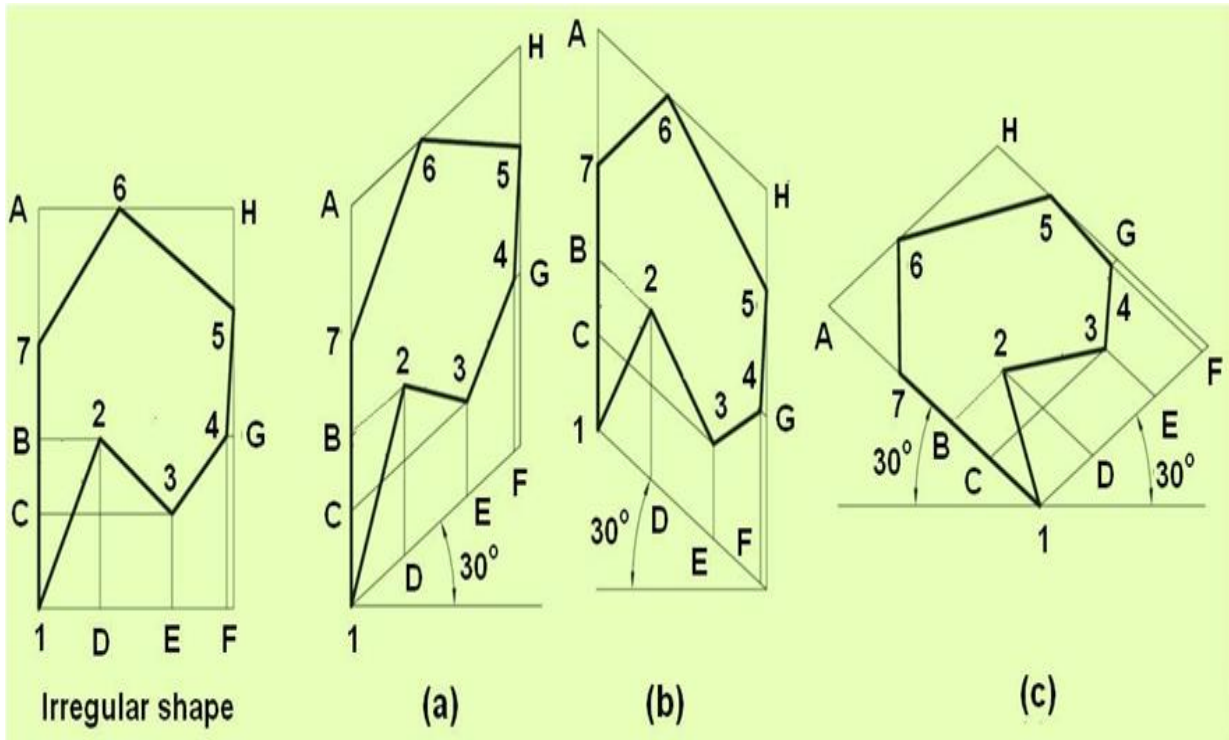

Figure 19. Method of obtaining the isometric views of an irregular shape.
- The method of drawing the isometric view of an irregular shape 1-2-3-4-5-6-7 is illustrated in Figure 19.